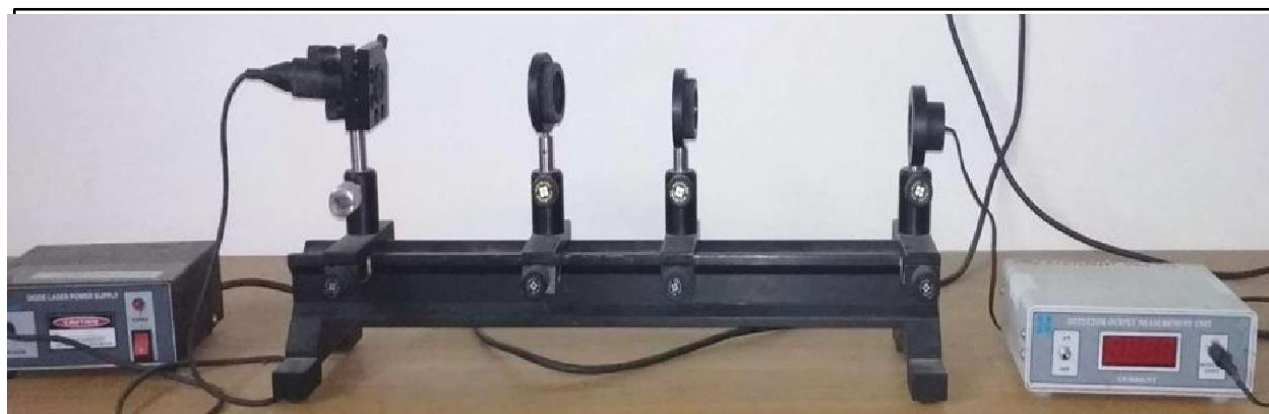

Figure 2
1. Set up the laser, photodiode, the polarizer and analyser as shown in Figure 2.